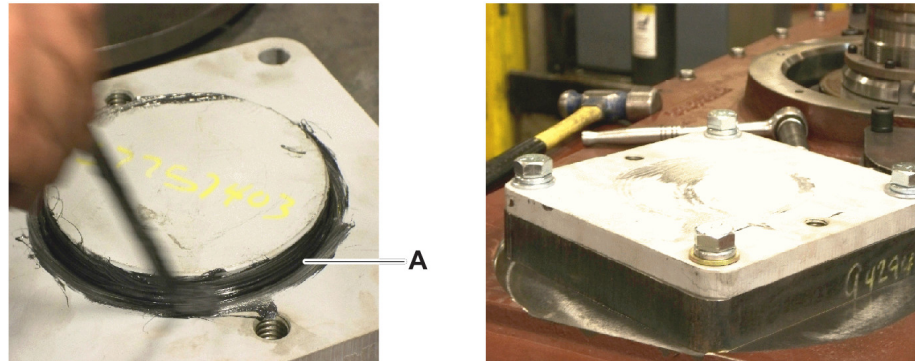

Figure 15
21. Apply Ronex-HD grease (Figure 15, item A) lightly to the mounting shoulder on the motor covers and install the O-rings. Install the covers and insert the bolts. Torque the bolts.